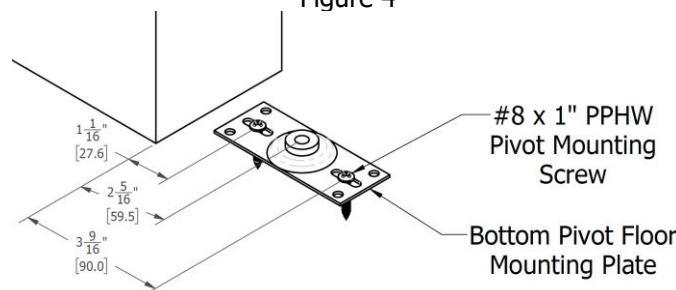

Figure 5
- At the center of the jamb depth, 2-5/16" from the Pivot Side Jamb, secure the Bottom Pivot Floor Mounting Plate on to the floor with 2ea #8 x 1" PPHW screws as seen in Figure 5